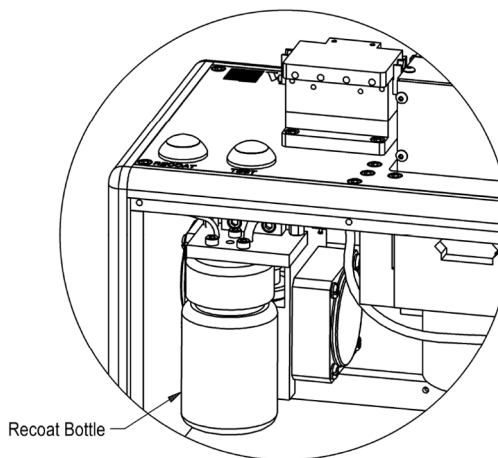

Figure 4 PTR208 Recoat Bottle Access
2. Remove the front plate of the recoater by using the 3/32" Allen wrench provided in the tool kit to remove the four (4) black socket-head cap screws located at the corners of the plate.
3. The recoat pump is located on the left side of the device as shown in Figure 4. Unscrew the brown recoat bottle located at the front of the pump and remove by angling out through the front opening. The red Fill tube will flex to allow removal.